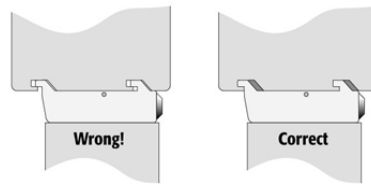

Figure 9. Attachment of Mounting Claws
4. Double check whether the leg claws are correctly attached to the X-axis (see Fig. 9).
4. Double check whether the Stack clamps are correctly attached to the X-axis (see Fig. 9).
4. Double check whether the two Tray Holder clamps are correctly attached to the X-axis (see Fig. 9).